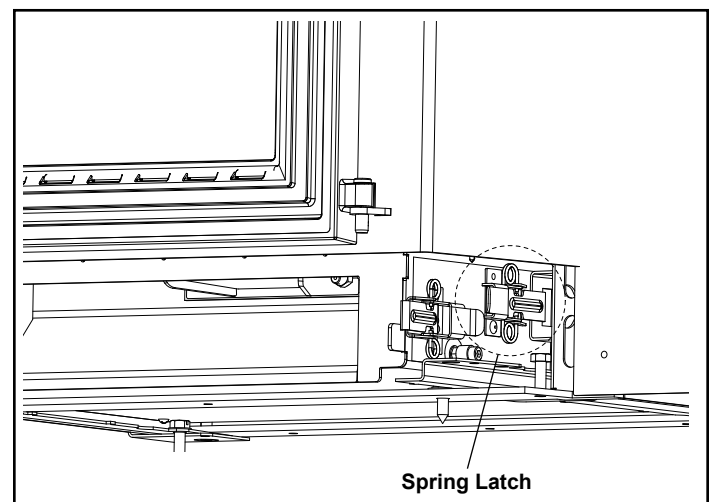

Figure 2.8
5. Release the right and left side spring latches and slide the insert body out onto the hearth or onto the service rail kit, if purchased. Figure 2.8.